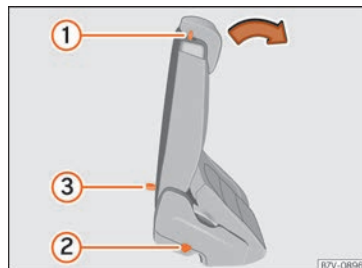

**Fig. 137** Second row of seats: access aid controls.
- Remove any objects located in the footwell of the second row of seats, where applicable **»» ❶.**
- Push the lever » Fig. 137 ① forwards and fold the backrest of the rear seat. This seat folds forward completely » ⚠ and can still be moved further forward.
- Make sure that the rear seat is securely engaged so that the seat belts can provide proper protection in the rear seats. The red mark » Fig. 137 ② should no longer be visible » ⚠ in **Folding the rear seats down as a cargo surface** on page 144.
- If the lever » Fig. 137 ① does not work, e.g. after an accident, the seats on the second row can be folded forwards from the third row to allow vehicle occupants of the third row of seats to get out of the vehicle » ⚠.
- Pull the handle » Fig. 137 ③ back and fold the backrest of the rear seat. The complete rear seat folds forward » ⚠.
- A red mark on the side of the seat » Fig. 137 ② indicates that the seat backrest is not engaged. The mark is no longer visible when it is correctly engaged.